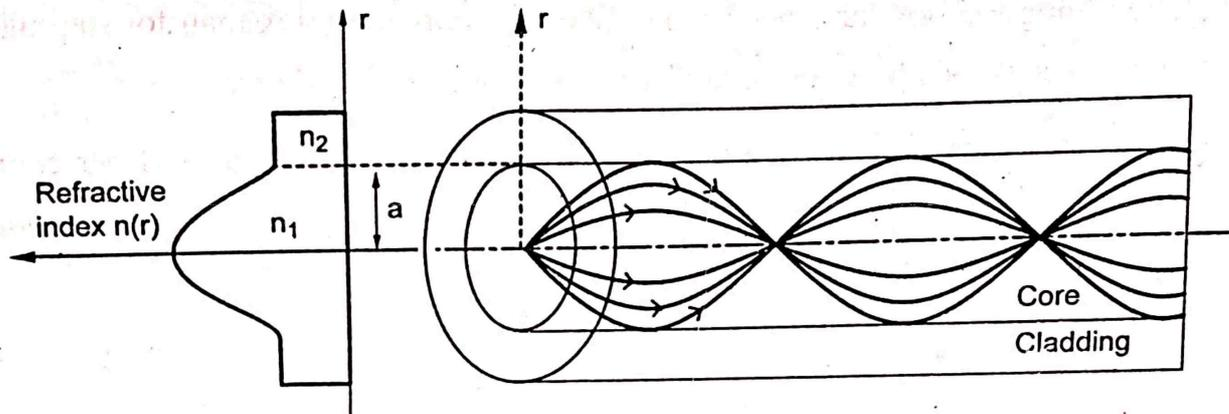

Fig 3.7 Multimode graded index fiber
- ♣ Fig 3.7 shows a multimode graded index fiber with a parabolic index profile core. It may be observed that the meridional rays follow a curved path through the fiber core.
3.3 SINGLE MODE(SM) FIBERS